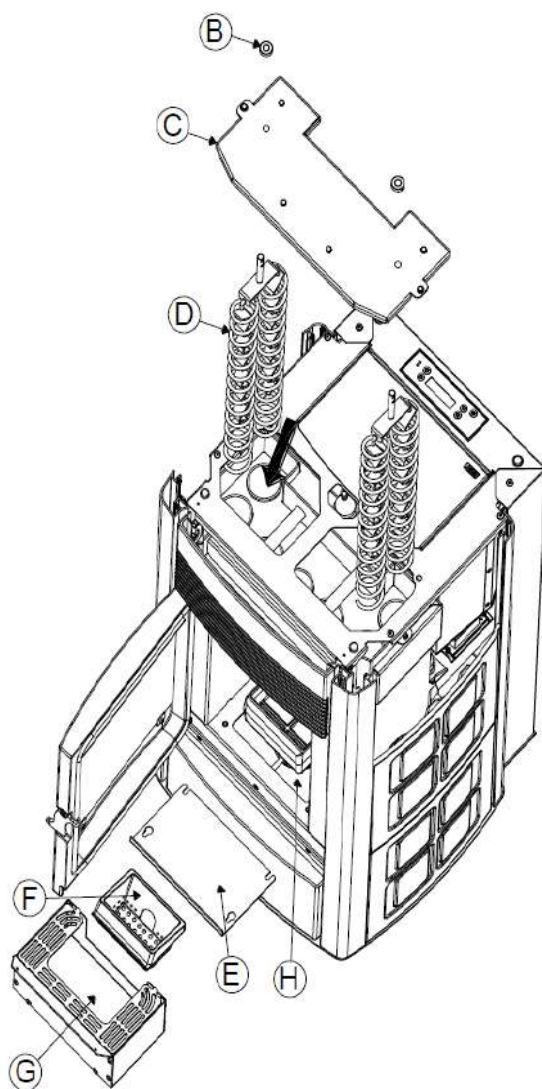

Figure 16 - Cleaning of the group of pipes, the turbulator and the lower compartment (EGO/STAR)
CAUTION: It is advisable to clean the upper exchanger at the end of the season and possibly by a specialised approved technician in order to replace the seal under the plug "C". (fig.16).
**CAUTION:** It is advisable to clean the upper exchanger at the end of the season and possibly by a specialised approved technician in order to replace the seal under the plug "C". (Fig.16).